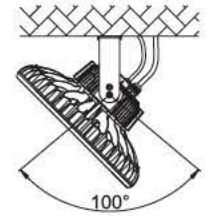

Figure 7
4. After installation, please wire in accordance with local connection standard, and make sure there is a good joint protective measures. Users can adjust 50 degree to left or right in vertical direction by adjusting the screw on the bracket. (Figure 7).